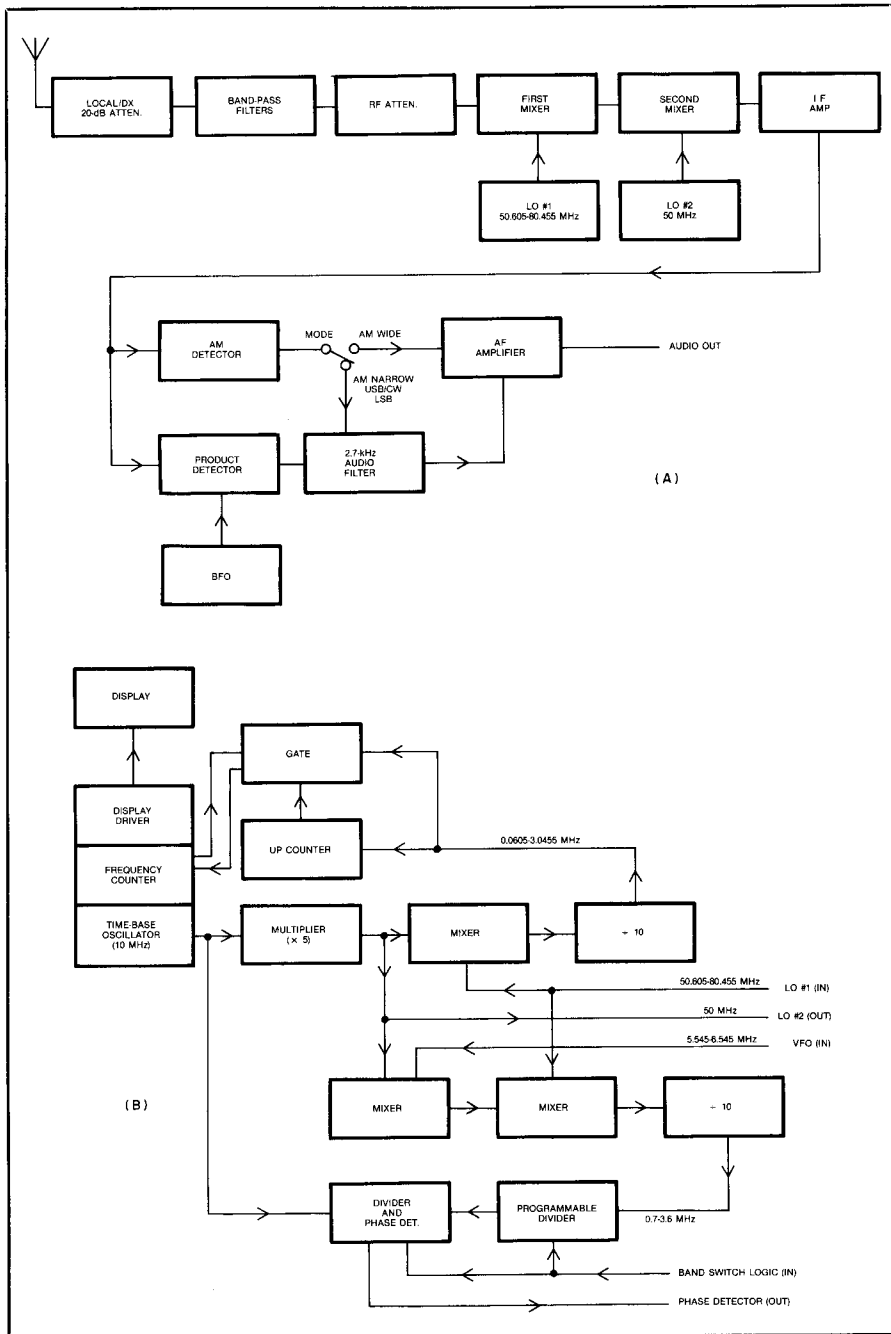

Fig. 1 — Simplified block diagrams of the SW-7800 receiver (A) and synthesizer (B) circuits.
Simplified block diagrams of the receiver (A) and synthesizer (B) boards are shown in Fig. 1. Signals enter the receiver section of the '7800 through one of six diode-switched, one-octave,